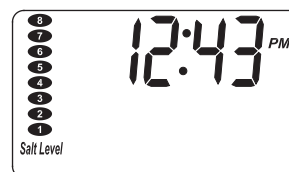

FIG. 22
3. Press the SET SALT LEVEL button until black ovals correspond to the salt level number (See Figure 22). At level 2 or below, the "Check Salt Level" LED indicator will flash.